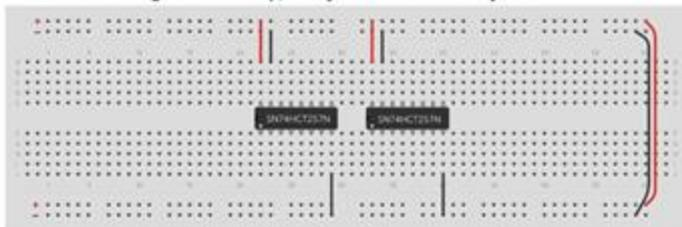

Figure 7: Place the chips and connect them to power and ground. Also connect their output enable pin to ground (pin 15, $\overline{OE} = 0$).
- Place the three bus connectors as shown in Figure 7.